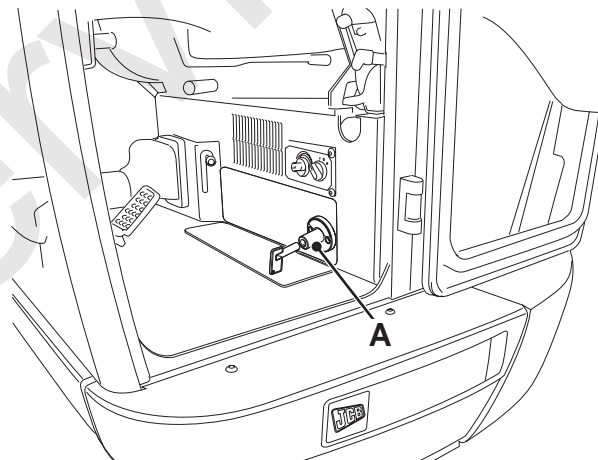

Fig 79.
- 2 Insert the key **A**, then turn the battery isolation switch to the off position. ⇒ Fig 79. \(□ 216\).